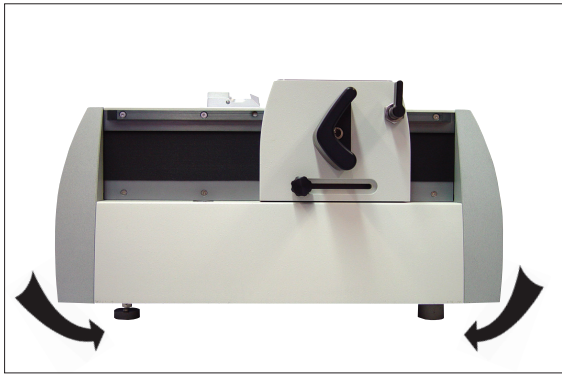

Fig. 5
- To lift the instrument from the box, hold it on the left and right of the housing (Fig. 5), lift it out of the foam cushion of the package and place it on a stable lab table.